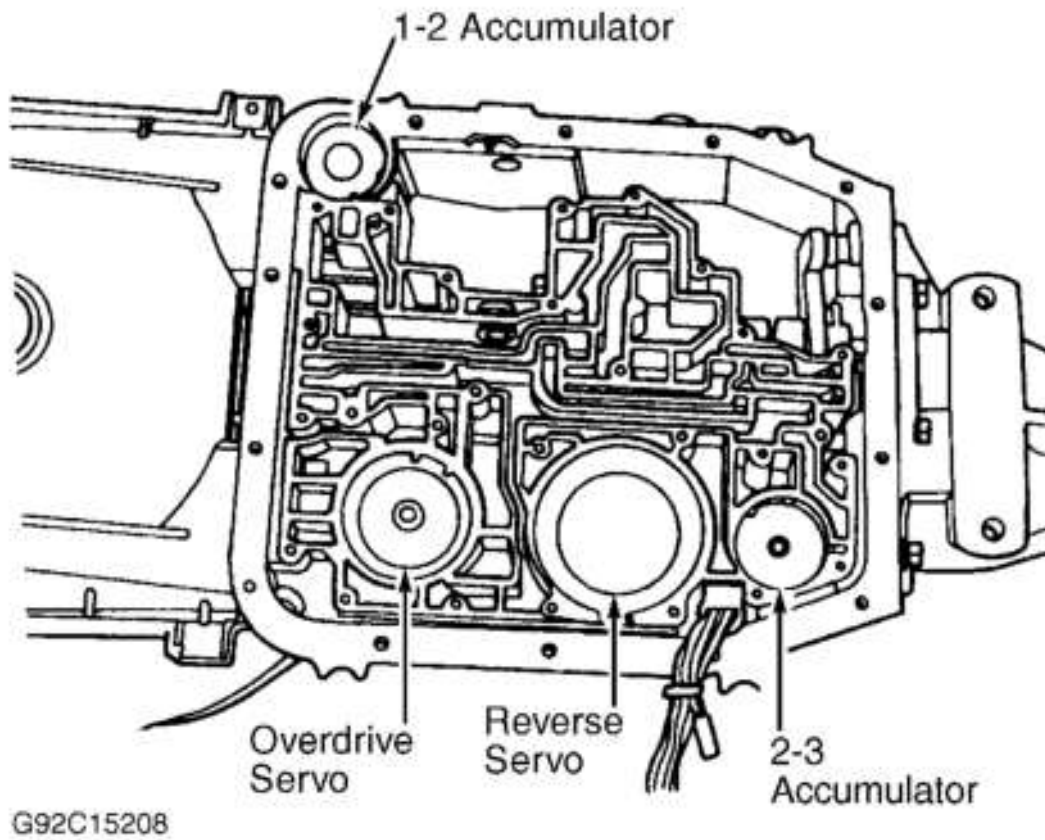
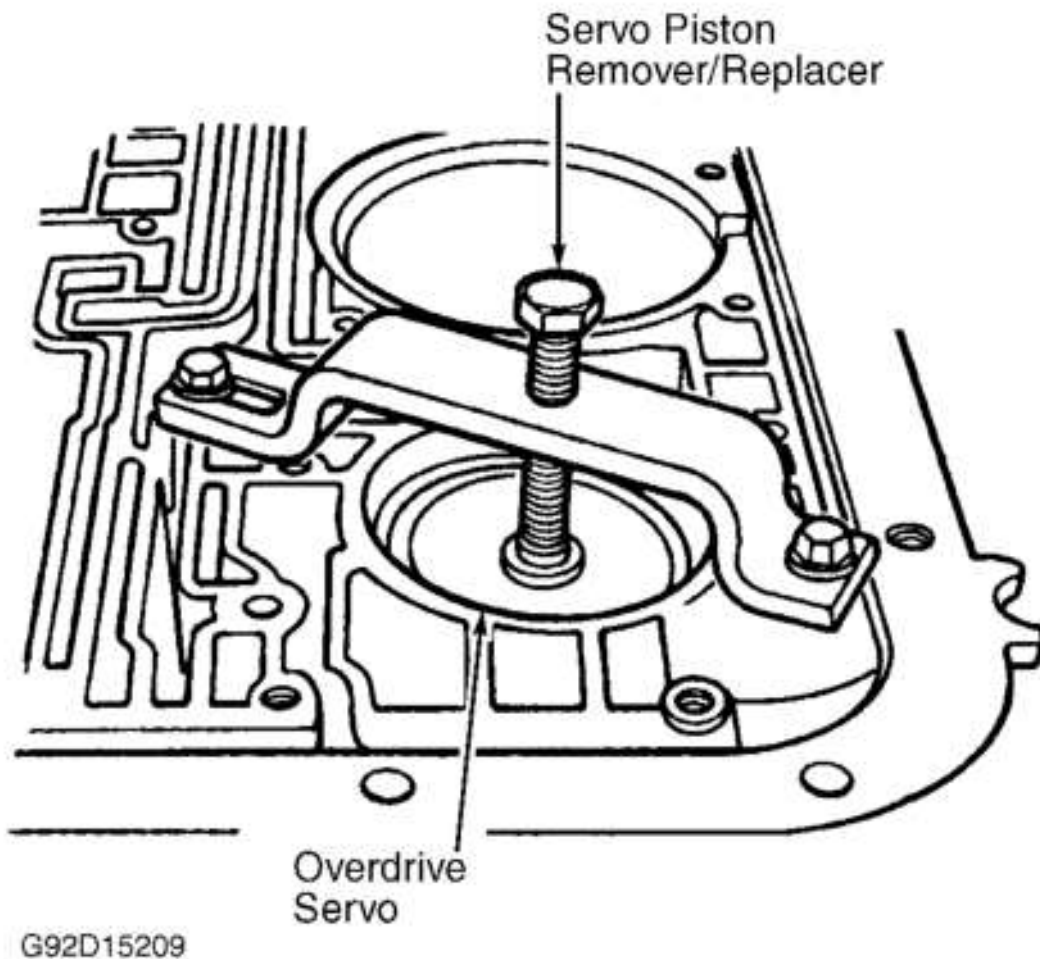

Fig. 4: Identifying Accumulator & Servo Locations
Fig. 5: Removing & Replacing Overdrive Servo
Remove valve body, see **VALVE BODY ASSEMBLY** . Locate overdrive servo. See **Fig. 4** . Using Servo Piston Remover/Replacer (T92P-70023-A), depress overdrive servo piston and remove retaining ring. See **Fig. 5** . Remove piston assembly and spring.
2. Using remover/replacer, depress piston and install retaining ring. See **Fig. 5** . Install valve body. To complete installation, reverse removal procedure.
Remove valve body, see VALVE BODY ASSEMBLY . Locate reverse servo. See Fig. 4 . Using Remover/Replacer (T92P-70023-A), depress reverse servo piston cover and remove retaining snap ring and cover. Remove piston and spring from case.
1. Remove valve body, see **VALVE BODY ASSEMBLY** . Locate 1-2 or 2-3 accumulator. See **Fig. 5** . Using Remover/Replacer (T92P-70023-A), depress piston cover and remove retaining snap ring and cover or remove spring cover.